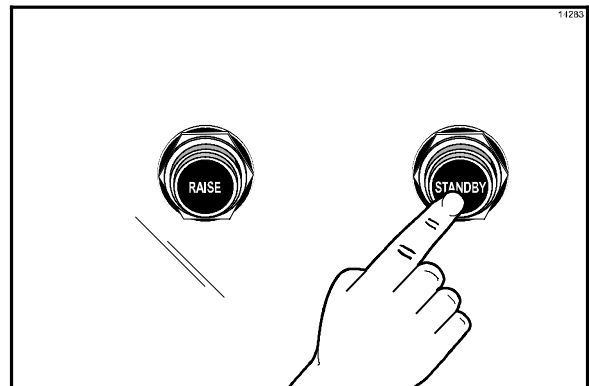

Figure 21
13. Press the Standby button to close the platen. (See Figure 21.)